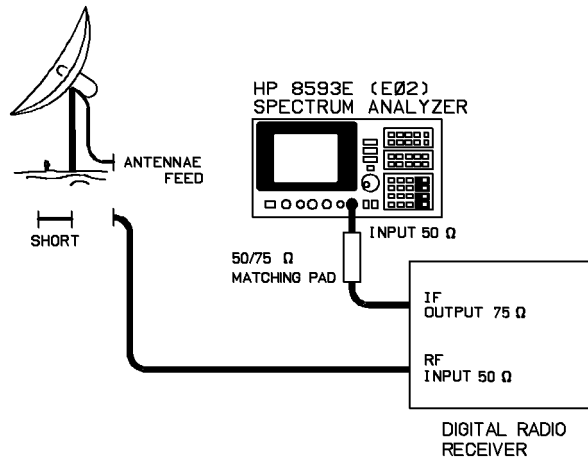

Figure 3-7. Link Receiver Setup
1. Connect the HP 8593E Spectrum Analyzer as shown in Figure 3-7.